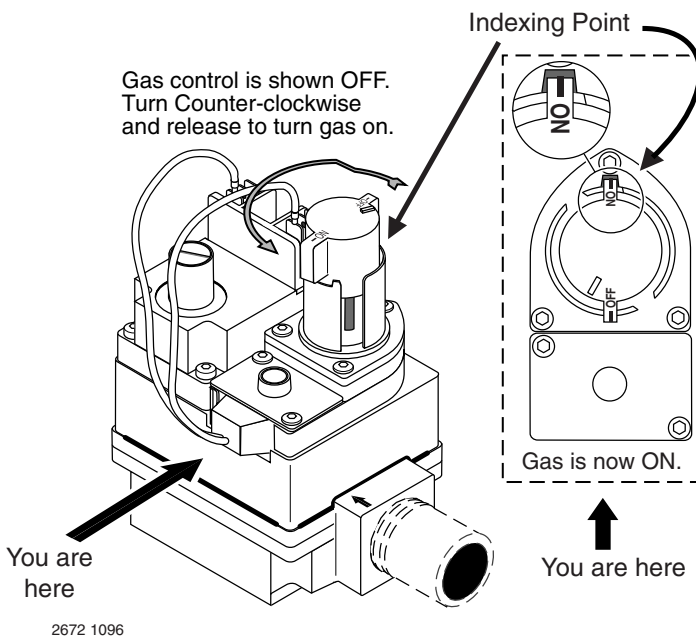

FIGURE 5: Turning gas control ON
- Wait five (5) minutes to clear out any gas. If you then smell gas, STOP! Follow "B" in the "Before Startup" instructions (Page 4). If you don't smell gas, go to the next step.
- Turn the knob on the gas control counter-clockwise (↺) to the "ON" position. See Figure 5.